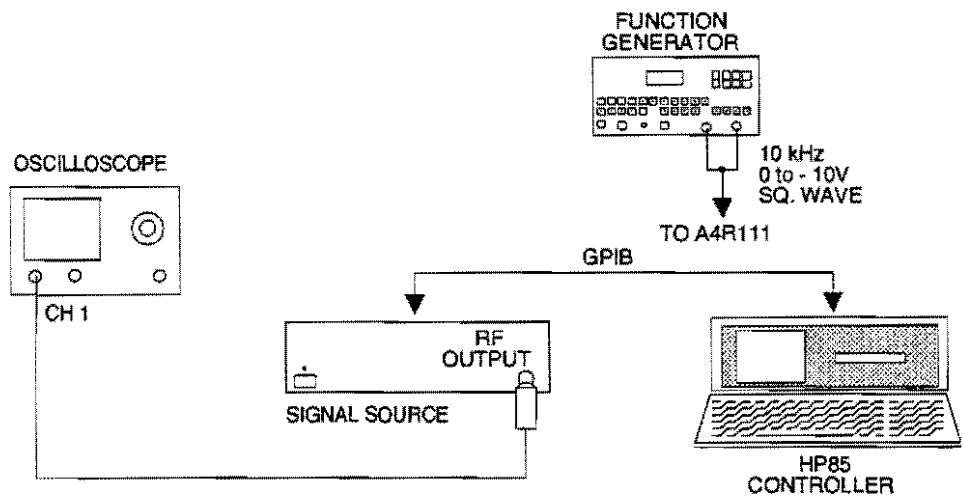

Figure 10-19. Test Equipment Setup for ALC Loop Confidence Test
Step 1. Set up the test equipment as shown in Figure 10-19.